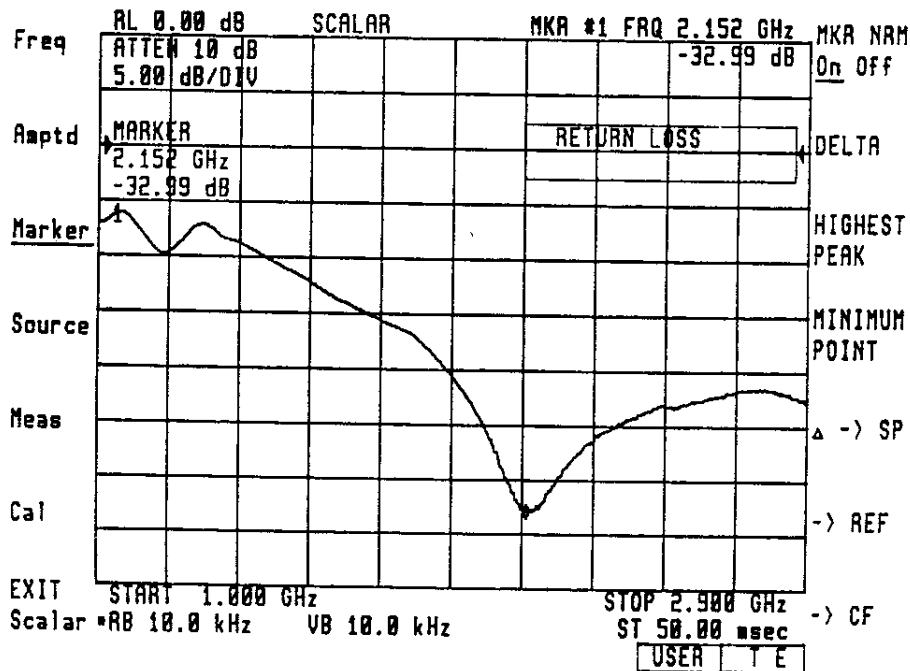

Figure 5-9. Reflection Measurement - Return Loss
8. Press **Marker**, **MKR NRM ON** to activate the marker. Since the reference level is normalized to 0 dB due to the open/short average calibration, the marker reads return loss directly in dB (Figure 5-9). Return loss is defined as